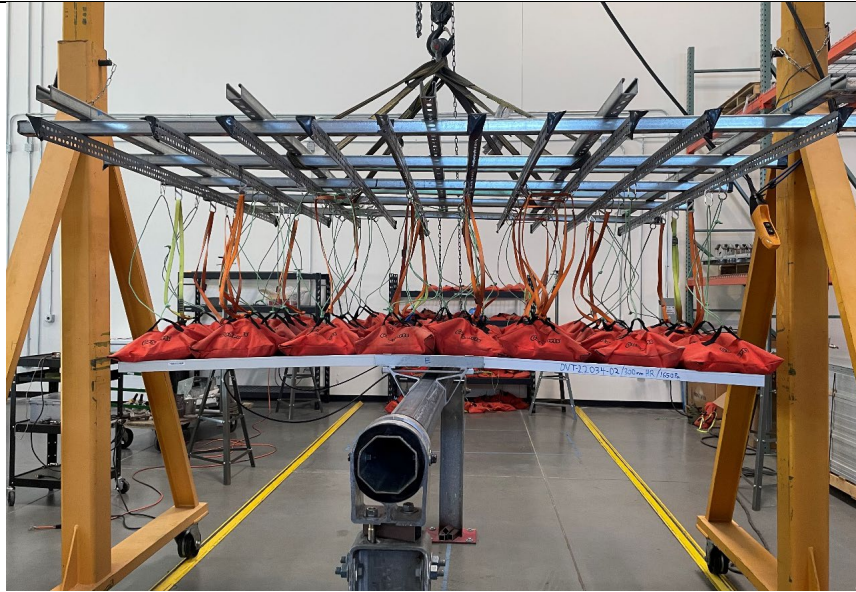

Figure 1: Array's Existing Module Load Tester
<p>Project Summary</p> <p>Array Technologies develops tracking systems for utility scale solar projects and has a need to test the load capacity of its mounting devices with various photovoltaic (PV) modules (solar panels). The goal of this project is to design, build, and demonstrate the operation of a test device that applies distributed loads across two adjacent PV modules. Students will work closely with an experienced engineering advisor from Array throughout the course of the project. The device must apply loads in opposing directions to simulate applied wind and snow loads and should have the capability of adjusting the load magnitude in various regions of the PV modules. Array anticipates that the test device will use primarily off-the-shelf components, and the project team will focus their efforts on designing the load frame and control logic.</p> <p>Similar test devices on the market are designed to test singular PV modules, rather than the two adjacent modules required by Array for validation of mounting devices. Array's existing two-module load test device (pictured in Figure 1) is used on a regular basis and utilizes weighted bags to apply loads to PV modules. When modifying loads for different modules or project site pressures, the weights must be manually adjusted. For applying uplift loads (i.e. wind pressure on the back side of the module), the module must be rotated so that the weights can act with the direction of gravity. The system also makes the application of unbalanced loads challenging, and it cannot perform cyclic fatigue tests. An automated load device will solve these issues and others; it will improve the cycle time of tests as well as the efficacy of the results, ultimately creating better and more reliable products for the solar industry.</p> <p>The system should be capable of applying distributed variable loads from 0 to 3600 Pa and should be adjustable to accommodate various module sizes. It should be programmable to apply load sequences in opposing directions for up to six hours of continuous operation. Load application devices should only interface with a single side of the PV module glass but should be capable of applying both a push and pull force. Project deliverables include the physical test device, CAD models, structural FEA simulation or structural calculations, an operation manual, a bill of materials, and control logic.</p> <p>Array anticipates using the test device on a regular basis, as module load tests are required to validate each new model of PV module for all of Array's mounting devices. Participants in this project have the opportunity to make an immediate and measurable difference in the renewable energy industry.</p>